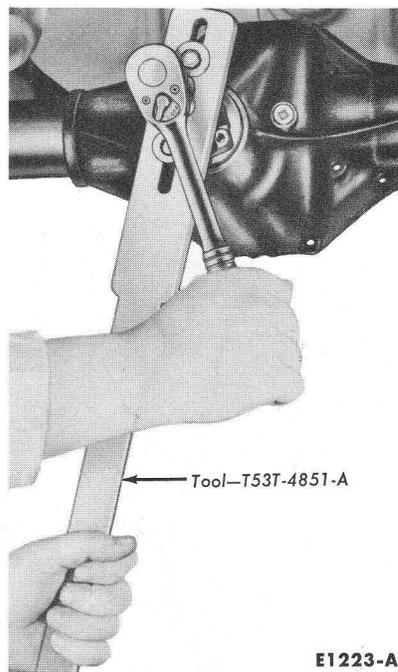

FIG. 10—Drive Pinion Flange Removal
6. Remove the pinion flange (Fig. 10).